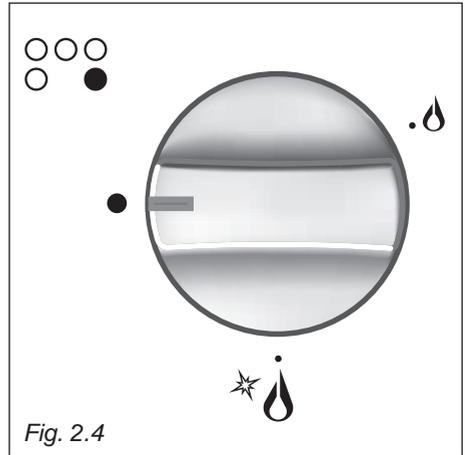
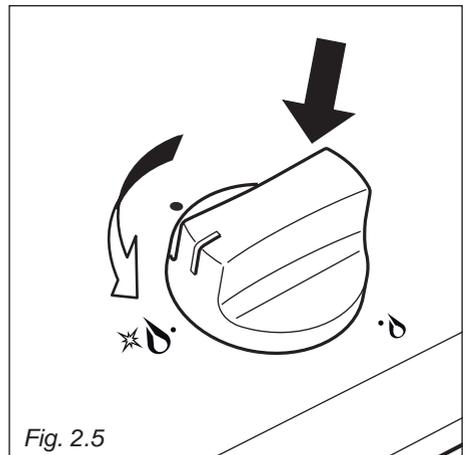

Fig. 2.4
Fig. 2.5
- With a small flat screwdriver turn the screw "A" to the correct regulation (fig. 2.5).
Gas flow to the burners is adjusted by turning the knobs (illustrated in fig. 2.4) which control the safety valves.
1. Press in the corresponding knob and turn counter-clockwise (fig. 2.5) to the full flame position marked by the “” symbol (fig. 2.4); hold the knob in until the flame has been lit. In the case of a mains failure light the burner with a match or lighted taper.